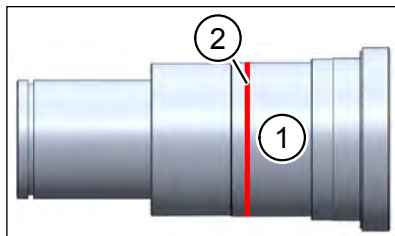
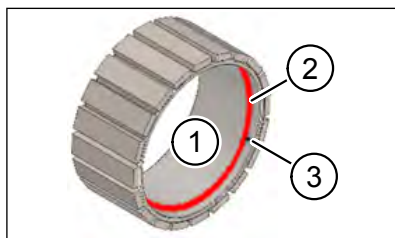

Fig. 13: Adhesive ring on the shaft
Fig. 14: Adhesive ring on the rotor
- ▶ Clean and degrease the bonding surfaces on the shaft (item 1 in Fig. 13) and rotor (item 1 in Fig. 14) following the adhesive manufacturer's instructions.
- ▶ Following the manufacturer's instructions, apply a thin ring of adhesive (item 2 in Fig. 13) to the bonding surface on the shaft (item 1 in Fig. 13).
- ▶ Following the manufacturer's instructions, apply a thin ring of adhesive (item 2 in Fig. 14) to the inner surface in the vicinity of the indexing hole (item 3 in Fig. 14) on the rotor.